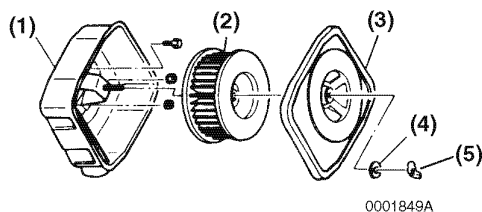

Figure 5-9
1. Remove the wing nut (**Figure 5-9, (5)**) and gasket (**Figure 5-9, (4)**).
2. Remove the air cleaner cover (**Figure 5-9, (3)**).
3. Remove the air cleaner element (**Figure 5-9, (2)**).
5. Clean the inside and outside of the air cleaner housing and cover (**Figure 5-9, (1, 3)**).
6. Reinstall (or install the new) air cleaner element (**Figure 5-9, (2)**) into the air cleaner housing.